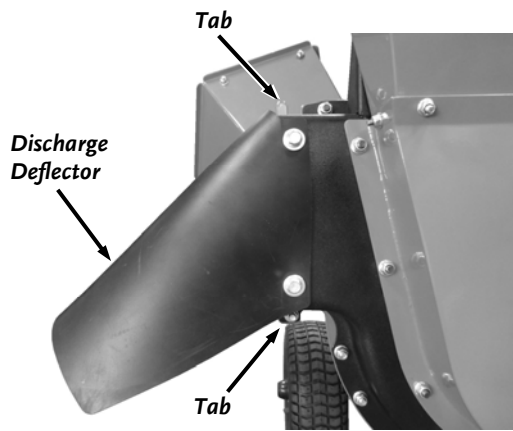

Figure 19
1. Install the open end of the Collection Bag over the rubber Discharge Deflector and hook it onto the metal housing tabs above and below the Discharge Deflector (Figure 19).